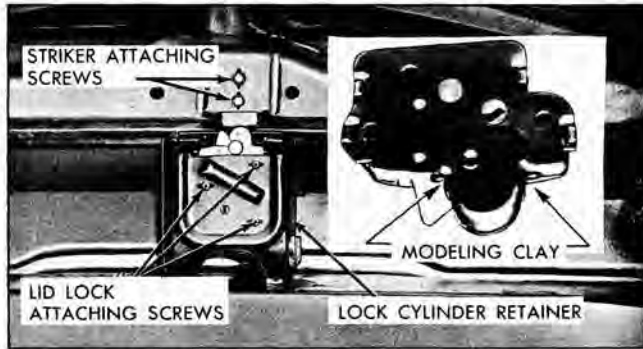

Fig. 5-8 Trunk Lock and Striker
1. Open rear compartment. Remove lock cylinder retainer and lock cylinder (Fig. 5-8).
2. Remove lid lock attaching screws (Fig. 5-8) and remove lock.
2. Remove striker attaching screws (Fig. 5-8) and remove striker.
- a. Insert a small quantity of modeling clay on frame of lock at both sides of the lock bolt (Fig. 5-8). Close lid with moderate force.